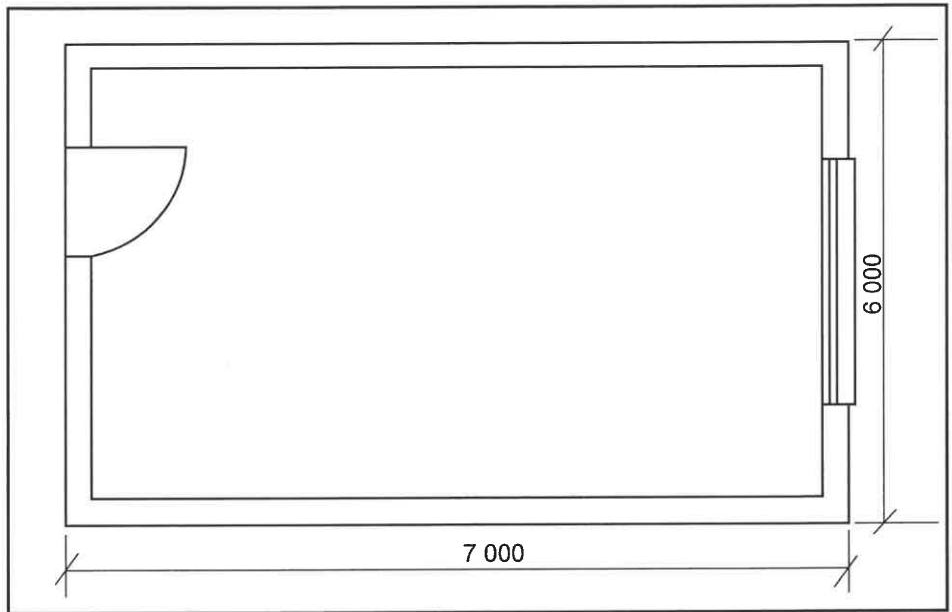

FIGURE 6.7
- Print any TWO labels and indicate the minimum concrete cover. (12)
- 6.7 FIGURE 6.7 below shows the floor plan of a building with a window and a door.